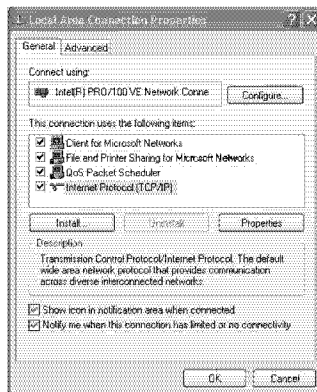

Figure 5: Local Area Connection Properties Window
4. Select **Internet Protocol (TCP/IP)** and click the Properties Button (see Figure 5).